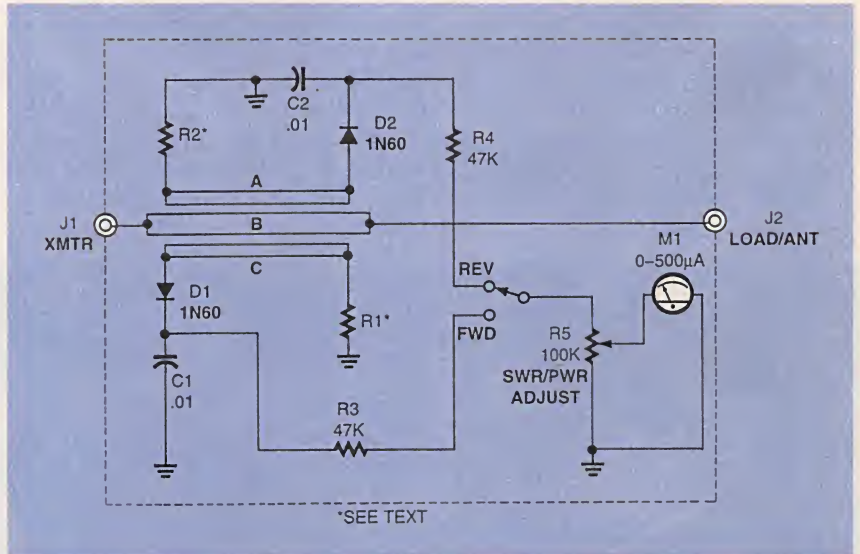

Fig. 6. The monomatch RF wattmeter is one of the "instruments of choice" for hams and other users for measuring RF power in the HF and low VHF ranges.
**Monomatch Bridge.** The monomatch bridge of Fig. 6 is one of the "instruments of choice" for hams and other users for measuring RF power in the HF and low VHF ranges. In the monomatch design, the transmission line is segment "B", while the directional coupler transmission line segments are "A" and "B". The directional coupler lines are used for sampling the forward and reverse RF signals. Although some instruments used modified coaxial transmission lines, later versions use PC-board elements for A, B and C.
The particular version shown in Fig. 6 uses a single DC meter movement to monitor RF power. With the addition of the switch and potentiometer R5, the circuit becomes both an SWR meter and a forward/reverse RF-power meter. Many modern instruments use two meter movements, one each for forward and reverse power.